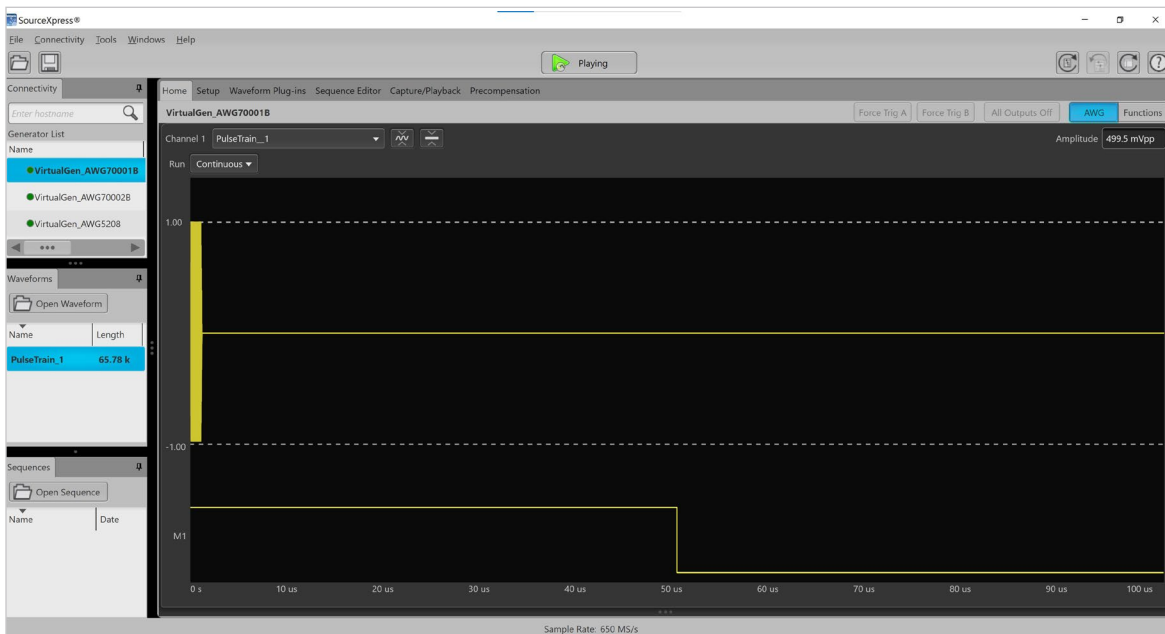

Figure 11: Home display of 1 μs pulse width 100 μs PRI radar signal.
The home display of a flat waveform (without using the sequencer) generated by SourceXpress using the radar plugin on a PC with a 9-bit DAC setting (one marker active) is shown in Figure 11. The three windows shown at the left side can be hidden or moved by using the Windows menu at the top of the screen, by selecting the pin in the upper right of an active window, or by dragging the window around the screen. The four buttons in the upper right of the screen can be used to reset to a default setup, reset the window setup, or read a version of the user manual for help.
In Figure 11 you can see a Run control near the upper left corner of the waveform display under the Channel label.
- When using the optional waveform sequencer, the Run control shown in Figure 11 is not used and a sequencer
- In **RF/IF mode** the Radar plug-in will compile a single real value RF or IF frequency waveform, like what is shown in **Figure 11**. Such signals can be generated by a single channel on any Tektronix AWG70000 or AWG5200 series instrument.